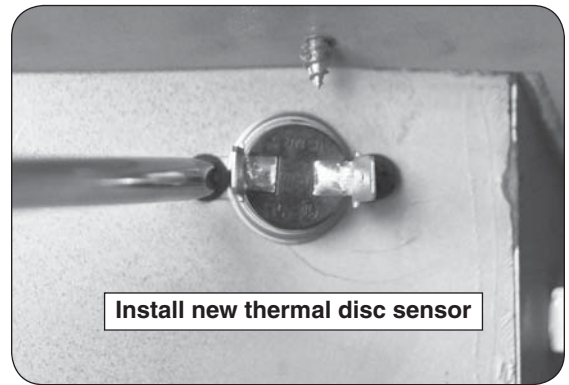

Fig. 3-1 Install new thermal disc sensor
1. Install the new thermal disc sensor using the existing screws and a Phillips screw driver (see Fig. 3-1).